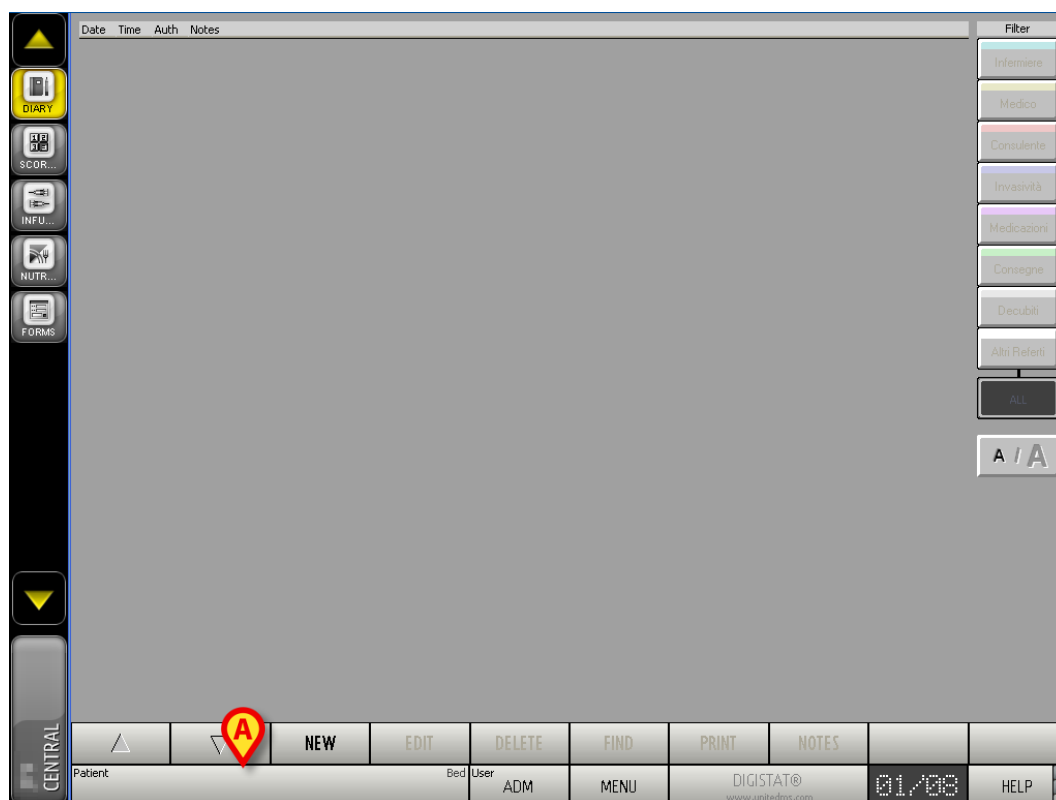

Fig 54
The module’s main screen is displayed (Fig 54).
In Fig 54 no patient is selected. None of the module functionalities is therefore available. The Clinical Diary can only display patient data when a patient is selected.
- click the **Patient** button on the Control Bar (Fig 54 A).